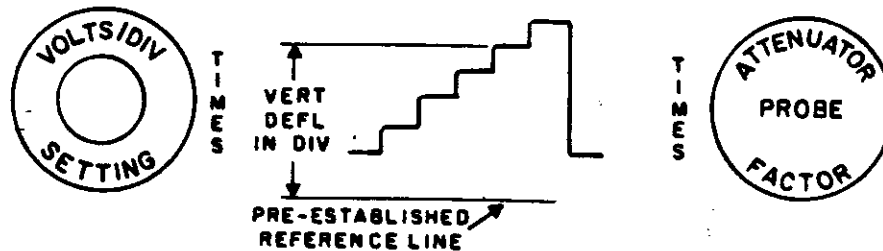

Figure 2-13. Instantaneous Voltage Measurement with Respect to a Reference Potential.
c. MEASURING INSTANTANEOUS VOLTAGES WITH RESPECT TO A REFERENCE POTENTIAL (Figure 2-13)